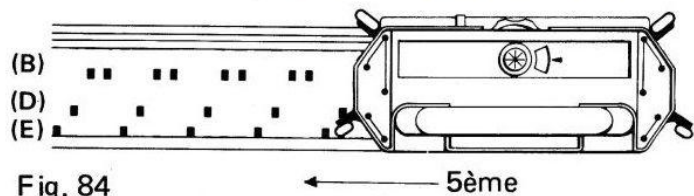

Fig. 84
- (d) With carriage on right, replace C.C. with M.C. Push back into position (D) from position (E) every 4th holding needle and, bring forward from position (B) into position (E) every 4th needle starting with 2nd needle from right end. (Fig.84)